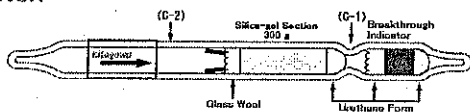

Fig.1
**SPECIAL NOTE:** Cut the tube at the point C-1 and C-2 \* (Fig.1) to take off the Silica-gel and Breakthrough indicator after sampling. Safety glass and gloves should be worn to prevent injury from splintering glass.
- ④ Hold the tube vertically for sampling. In the event the tube takes horizontal position, an air gap in the upper part of the Silica-gel may occur and the samples pass there sometimes. Consequently, it will cause breakthrough.
- ⑤ After sampling, break off the tube at the point of (C-1) on Fig.1 and take off the Breakthrough indicator from the Silica-gel section. Then, connect accessory caps with both ends of the Silica-gel section and preserve it in a cool and dark place.
- ② Dilute the standard solution step by step and make the working curve by means of injecting the diluted standard solution at each step into gas chromatograph.
- ③ Cut the silica-gel tube at the point C2, (Fig.1) Take off the he lock spring and Glass-wool plug on the silica gel section. Remove the silica gel and put into a sample vial completely.
- ④ Pour 2-3 mL of desorption solvent such as pure water into the sample vials, put on the lid, shake them for 1 min and leave them for approx. 1 - 2 hours. While the leaving time, shake them several times.
- ⑤ After the leaving, inject the extracted solvent 1 - 5 μ L into a gas chromatograph and determine the concentration of the sample by using the following equation with the working curve: